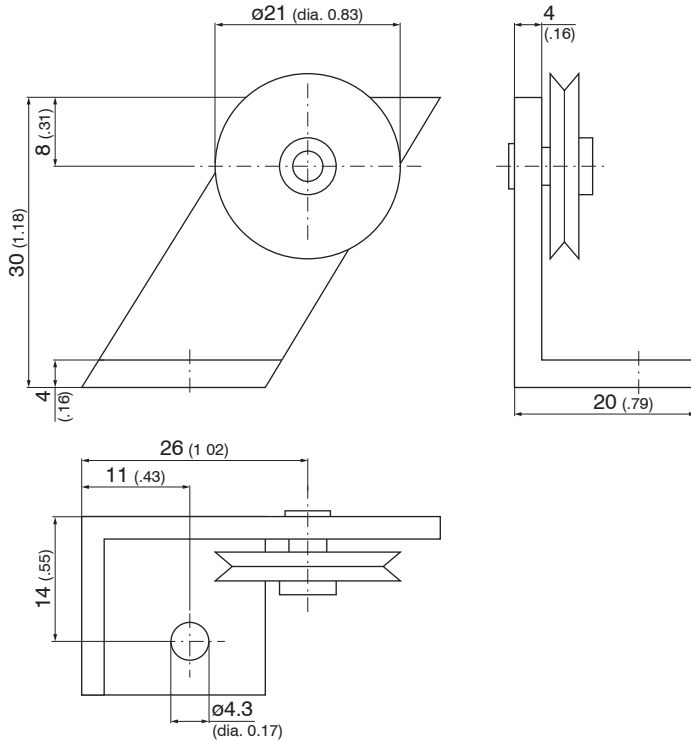

Fig. 21 Guide pulley TR3-WPS fix with mounting socket, dimensions in mm (inches), not to scale
- TR3-WPS Guide pulley fix with mounting socket, see Fig. 21